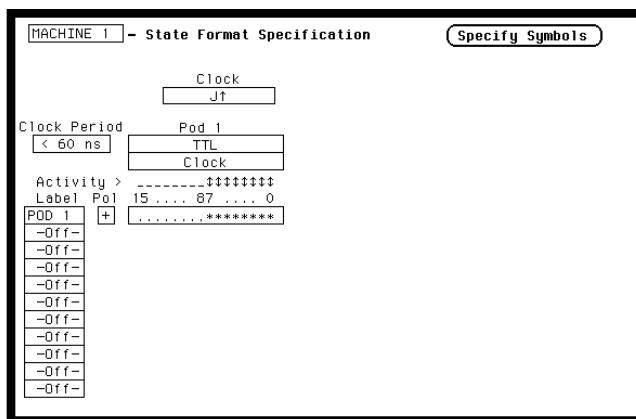

Figure 3-12. State Format Specification for Data Test 2
4. In the **State Format Specification** assign **Clock Period** < 60 ns, and rising edge of J clock. Also, assign lower 8 channels of the pod under test to a label as in figure 3-12.
- In the **State Format Specification** menu assign **Clock Period < 60 ns**, and falling edge of J clock. Also, assign the lower 8 channels of the pod under test to a label as in figure 3-12.
- In the **State Format Specification** assign **Clock Period** < 60 ns, and rising edge of J clock. Also, assign lower 8 channels of the pod under test to a label as in previous figure 3-12.